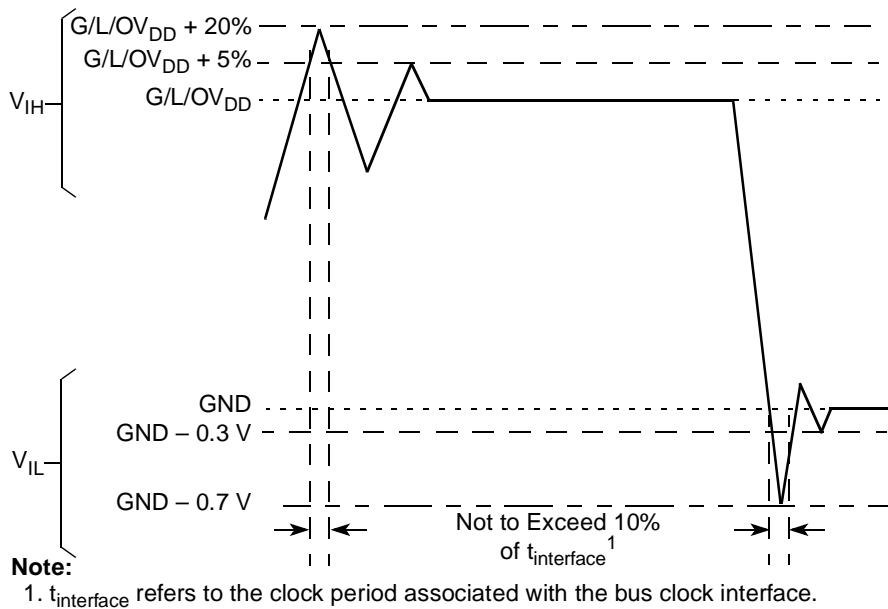

Figure 2. Overshoot/Undershoot Voltage for $GV_{DD}/OV_{DD}/LV_{DD}$
- (M,L,O) V_{IN} and MV_{REF} may overshoot/undershoot to a voltage and for a maximum duration as shown in Figure 2.
Figure 2 shows the overshoot and undershoot voltages at the interfaces of the MPC8347E.